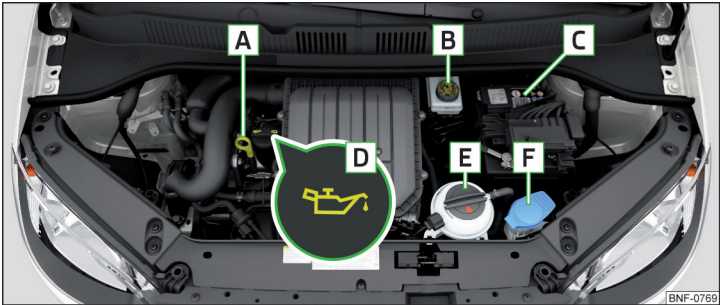

Fig. 107 Arrangement (example) in the engine compartment
- Unscrew the cap of the engine oil filler opening **D** » Fig. 107 on page 98.